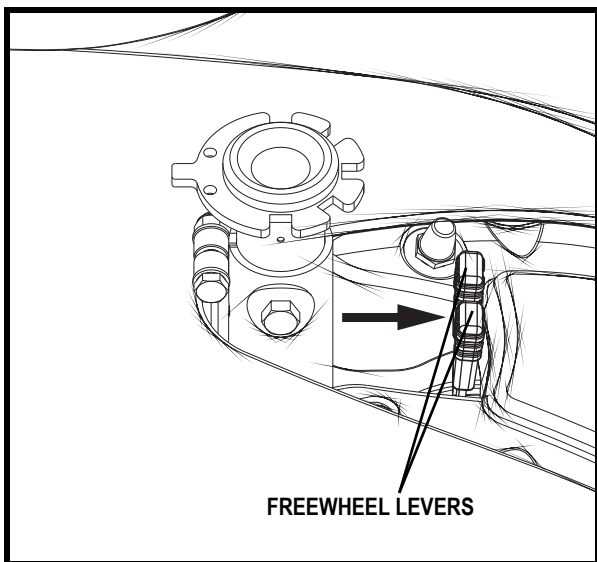

Figure 4. Drive Mode (Drive Engaged)
2. Push both levers forward away from the seat post to engage the drive motors (drive mode). See figure 4.
2. Ensure the power chair is in drive mode. **See figure 4.**